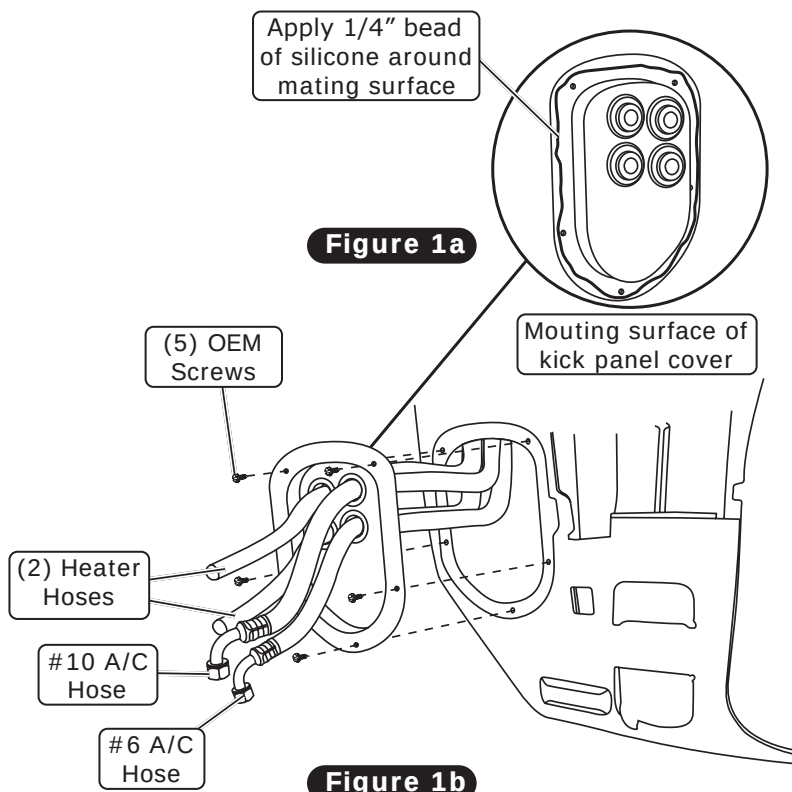

Figure 1b
3. Secure the kick panel cover using the OEM screws as shown in Figure 1b, below.